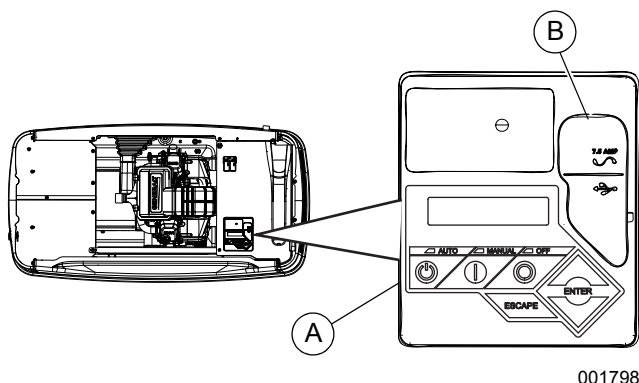

Figure 3-6. Generator Control Panel
See Figure 3-6. The control panel interface (A) is located under the lid of the enclosure. Verify that both the left and right side locks are unlocked before attempting to lift the lid of the enclosure. Open the lid as directed in Opening the Lid.